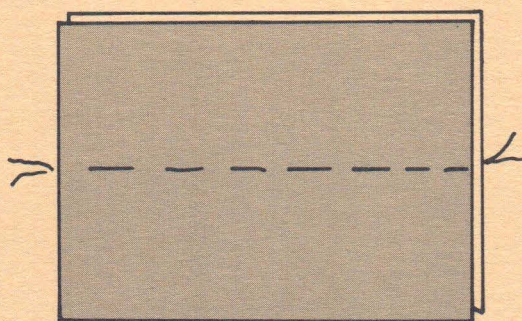

Figure 15
- Press each piece in half, lengthwise. Open each piece and with right sides together, machine-baste them together along the pressed fold (Fig. 15).